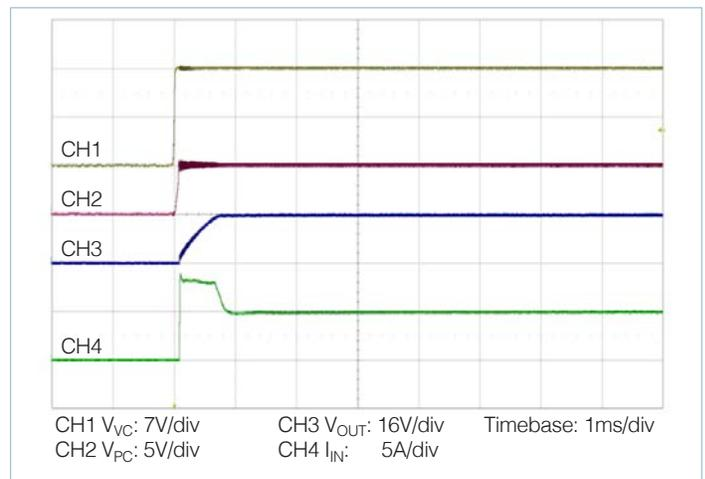

Figure 14 — Start up from application of VC;  $V_{IN}$  pre-applied  $C_{OUT} = 800\mu\text{F}$
- **Stand-alone operation (VC applied after  $V_{IN}$ ):** In this case the VTM output will begin to rise upon the application of the VC voltage (See Figure 14). The Adaptive Soft-Start Circuit may vary the output rate of rise in order to limit the inrush current to its maximum level. When starting into high capacitance or a short, the output current will be limited for a maximum of 1200 $\mu$ s. After this period, the Adaptive Soft-Start Circuit will time out and the VTM module may shut down. No restart will be attempted until VC is re-applied or PC is toggled. The maximum output capacitance is limited to 800 $\mu$ F in this mode of operation to ensure a successful start.